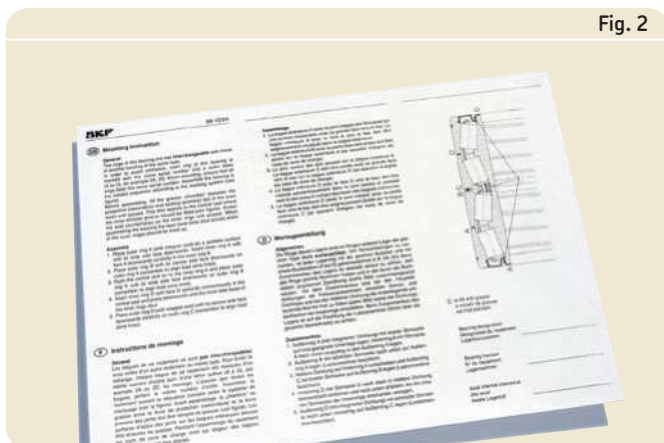

Fig. 2
**Note:** To make sure that the bearing components are mounted in the correct order, a sheet containing mounting instructions is included with each bearing (→ fig. 2) and should be followed.